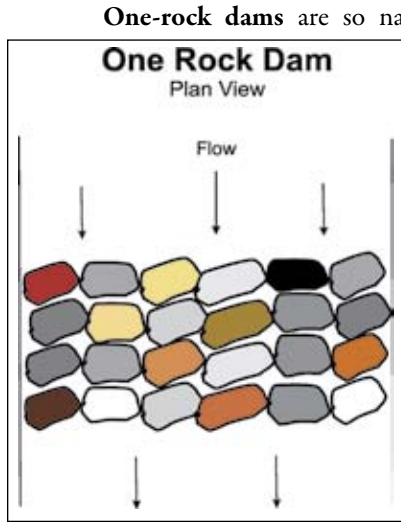
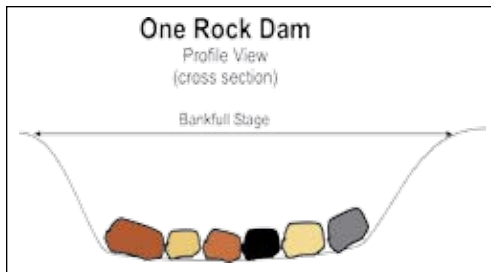

Figure 3.
Figure 6.
**One-rock dams** are so named because they are only one rock tall. The dam should be built with several rows of rock across from the upstream to the downstream edge. The dam should not be taller than 1/3 bankfull depth of the planned channel (Figure 3 and Figure 6, page 11).
be accomplished by placing larger rocks in the deepest part of the channel, smaller ones to either side (Figure 6, page 11). Do not stack rocks on top of one another to get the needed height. The stacked rocks will be swept away by flood flows. Placing greatly oversized rocks in the structure will generate turbulence that could undermine it. Rocks should be sized proportionately to the 1/3 bankfull depth of the channel, 20-40 pound rocks for a channel one foot deep, 60-80 pounds for streams one and a half feet deep. Flood flows will pack smaller-sized bedload particles between the rocks, gradually strengthening the structure over time as a new riffle begins to develop at the site (see photo on page 11).
**One-Rock Dams.** A one-rock dam consists of more than one rock! The key to its success is that rocks are placed only one tier deep! They are not stacked. Rocks are placed in several, parallel rows across the gully floor and packed tightly together. A row of rocks should be of equal height and appear relatively flat or level from bank to bank (Figure 6). The elevation of the upstream row can be slightly higher
Dams consisting of 3 to 5 parallel rows of rocks have considerable mass but minimal surface exposure to the force of moving water (Figure 3, page 6). Therefore, advancing flood waters slide across the surface of the dam rather than pushing against it. Because the dam is low in height, the water drops only a few inches and has little power to erode a scour pool that might undercut the structure. Successive floods pack sand, gravel, and organic material between the rocks forming an excellent seed bed for new plants to colonize the site. Moisture accumulates under the rocks to nurture the young plants. Soon the roots of the maturing plants bind the rocks together for greater resistance to successive flood forces.